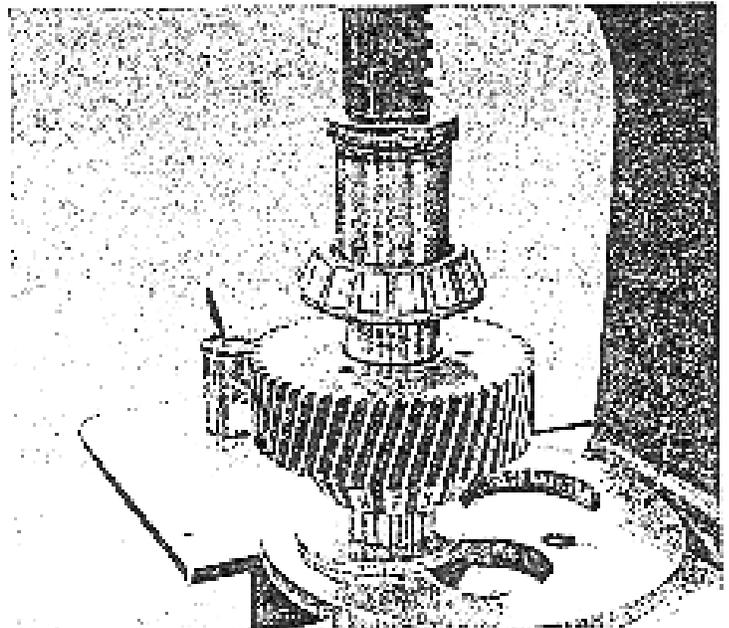

Figure 36. Pressing Roller Bearing onto Shaft.
1. To install new tapered roller bearings on output gear shaft, roller assemblies must be heated. Each assembly is then pressed on to shaft snug against shoulder of gear. See fig 36.